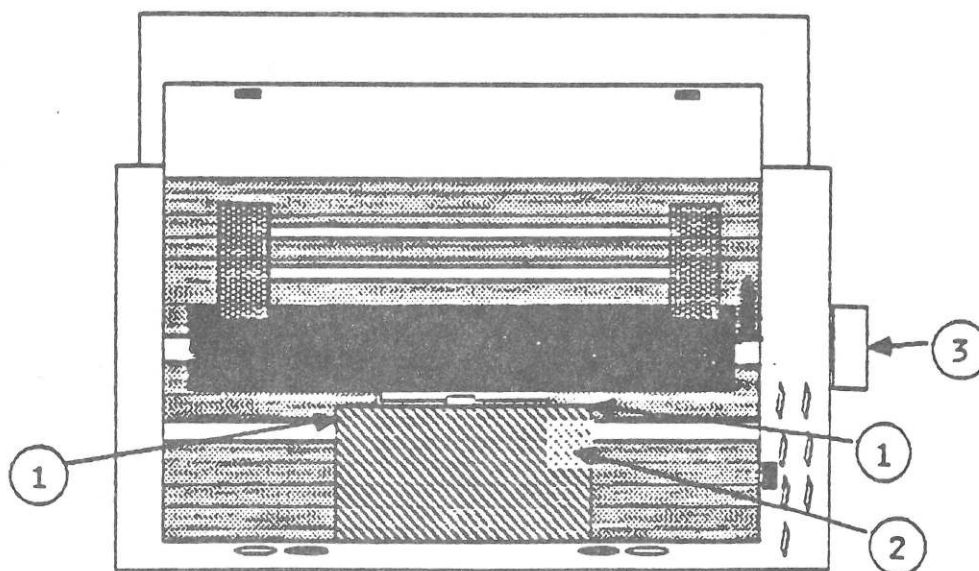

Figure 2
- a) Place your index fingers under the ribbon cassette, with one finger on each side, close to the platen (see Figure 2, #1).
CAUTION: The ribbon sensor is hidden under the cassette (see Figure 2, #2). Be sure that the finger on the right is under the **cassette** and not under the **ribbon sensor**.
5. Pull the platen knob (Figure 2, #3) off the platen shaft.